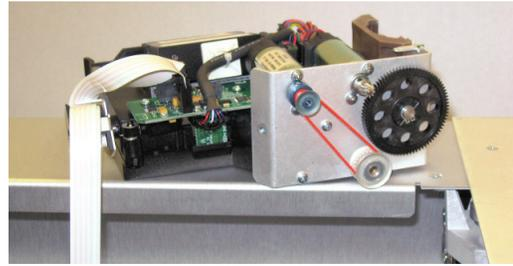

Figure 3. Set the Shuttle Aside; PCB Up
- c. Without twisting the shuttle flex cable, set the **shuttle assembly** (with the PCB side up) on the top edge of the unit (Figure 3).